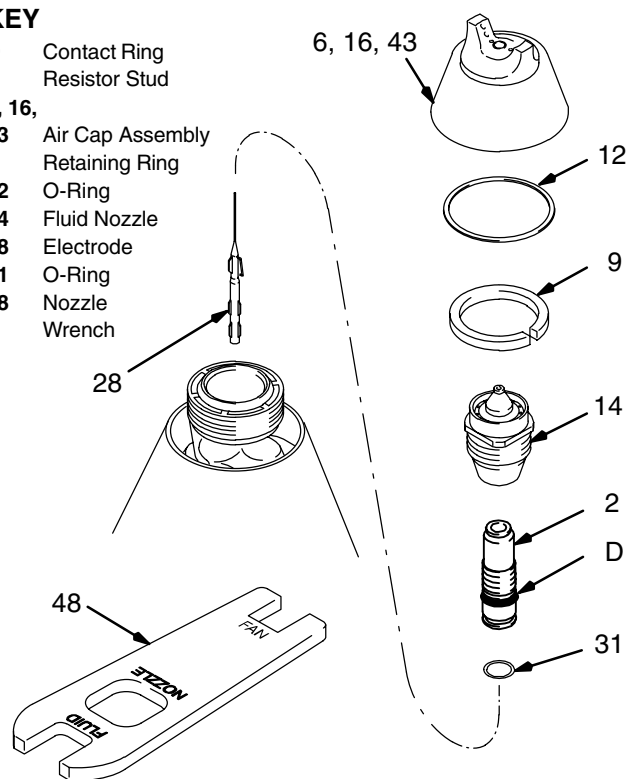

Fig 15
1. Point the front end of the gun up while removing the fluid nozzle (14) and resistor stud (2) assembly with the nozzle wrench (48). This helps drain the gun and prevent any paint or solvent left in the gun from entering the air passages. See Fig 15 .